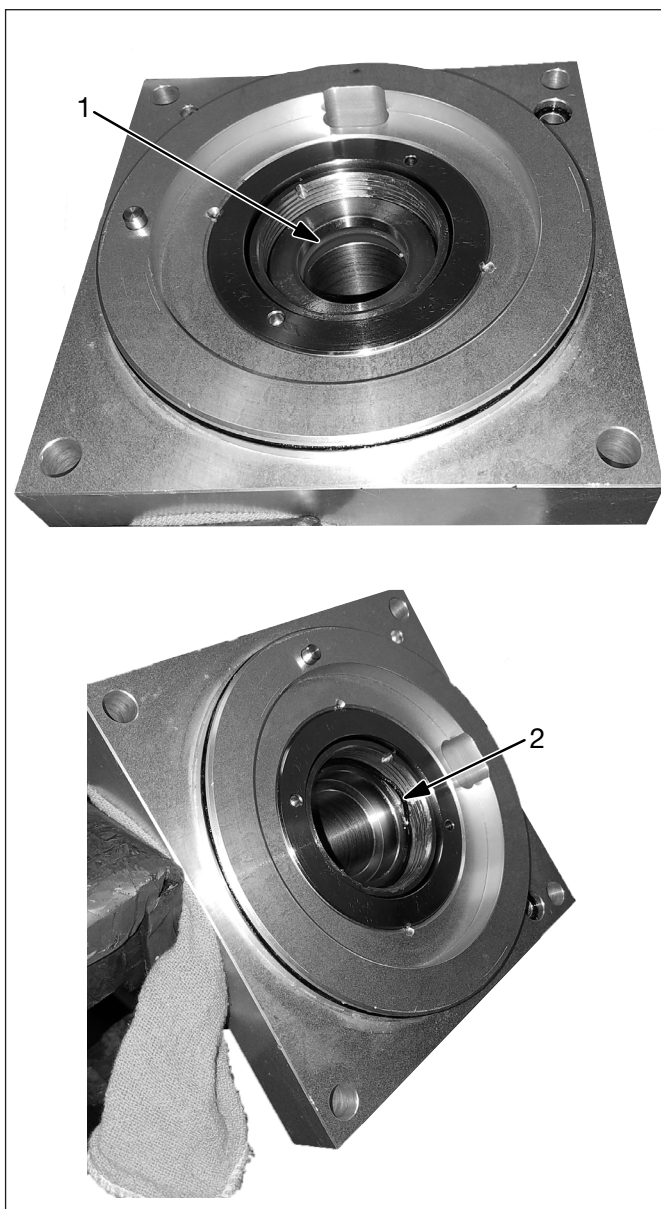

Figure 10, U-cup and O-ring
- Remove U-cup (Figure 10, Item 1) and O-ring (Figure 10, Item 2).
- Install O-ring (Figure 10, Item 1).